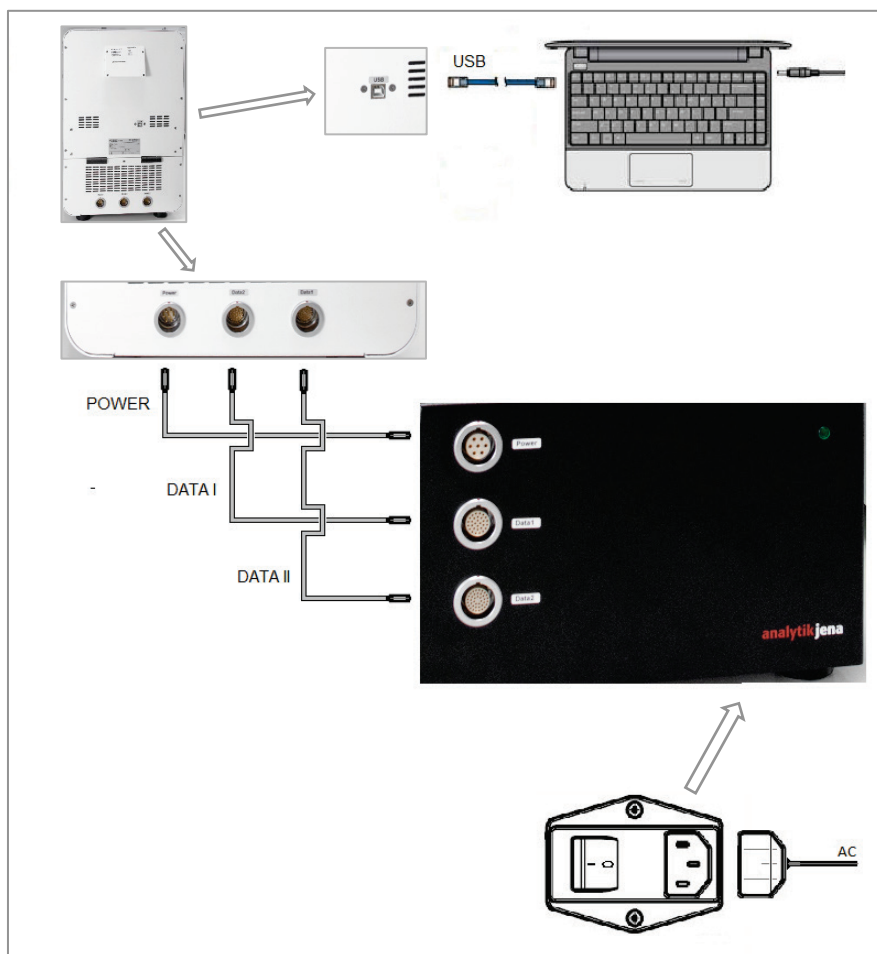

Fig. 11 Connecting the qTOWER³ auto
3. Connect the power cable and the two data connection cables both at the qTOWER³ auto and the power module (Fig. 11). The connection cables (circular connectors) are fitted with a push-pull locking mechanism for this purpose, i.e. the connector automatically locks into place; before removing it, first slide back the outer sleeve.